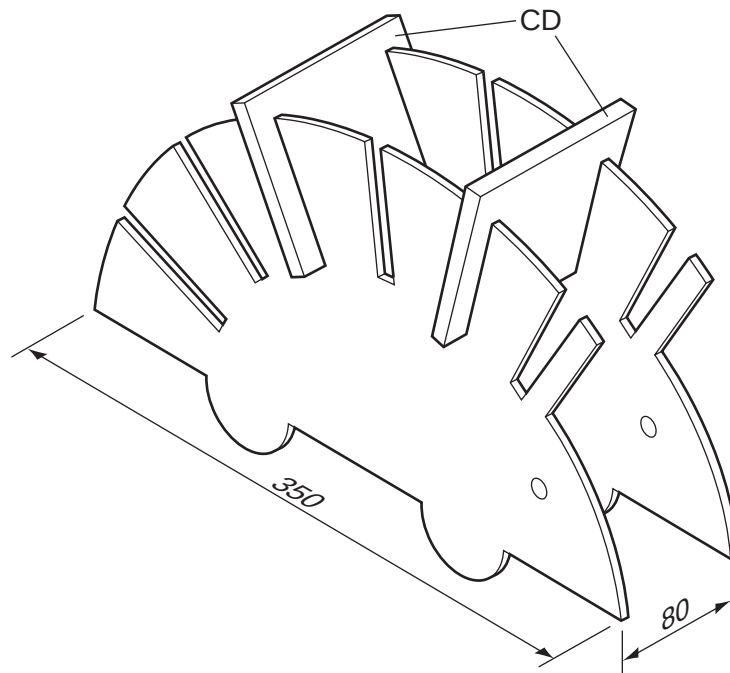

Fig. 9
- 13** Fig. 9 shows a novelty CD rack based on the shape of a hedgehog. The rack is supplied as flat pack for self-assembly.